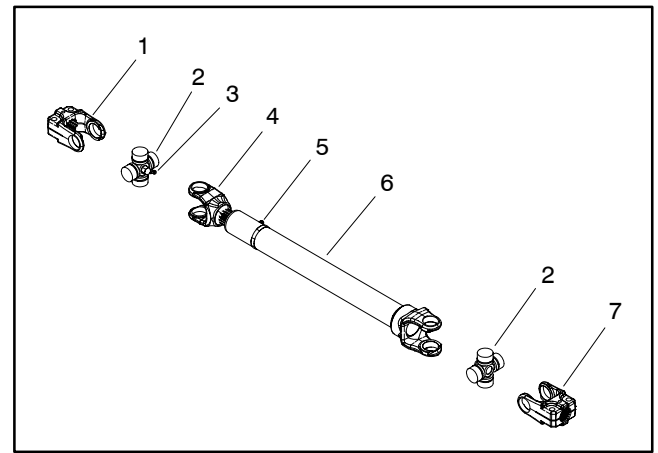

Figure 19
1. Position PTO drive shaft to machine. Make sure that drive shaft slip shaft yoke (item 4 in Fig. 19) is toward cutting deck gearbox shaft.